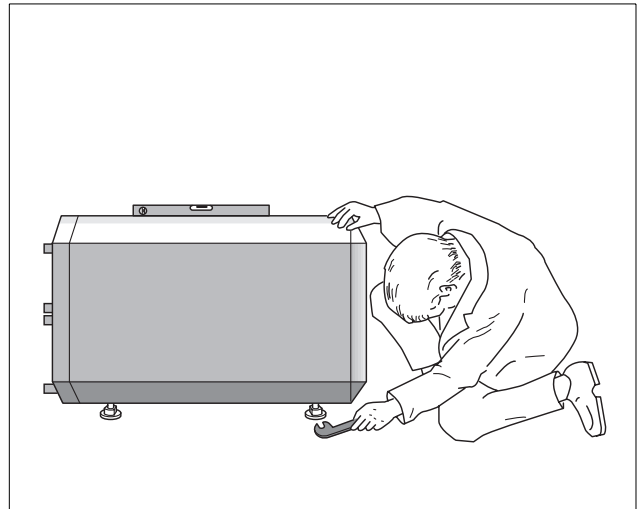

Fig. 9 Leveling of the tank using a level
- Level the tank using the adjustable feet. (Fig. 9).